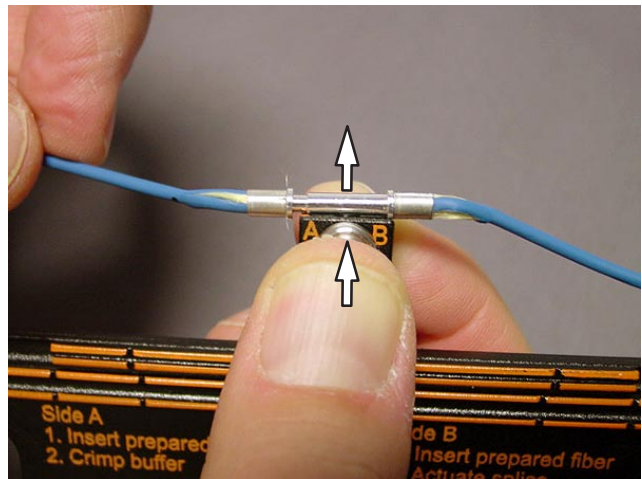

Figure 89
14. Grasp the button between the thumb and forefinger and squeeze to release the splice from the tool. See Figure 89.